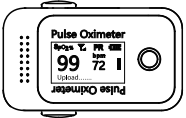
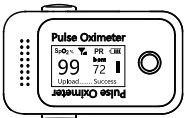
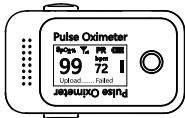

Figure 11
Figure 12
Figure 13
4. When the measurement is finished and the network is available, the upload procedure will be started automatically, as shown in *Figure11*. It will end with “Success” or “Failed,” as shown in *Figure12* and *Figure13*. If the upload failed, the current measurement record will be saved automatically and re-uploaded next time.